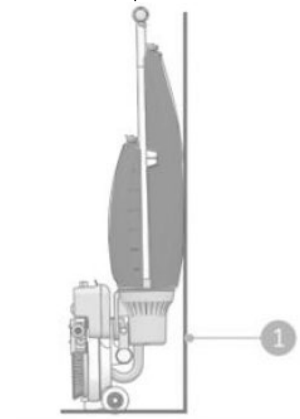

Fig. 20
4. Store the i-mop Lite close to a wall with the handle pointing towards the wall and the brushes facing away from the wall (Fig. 20)